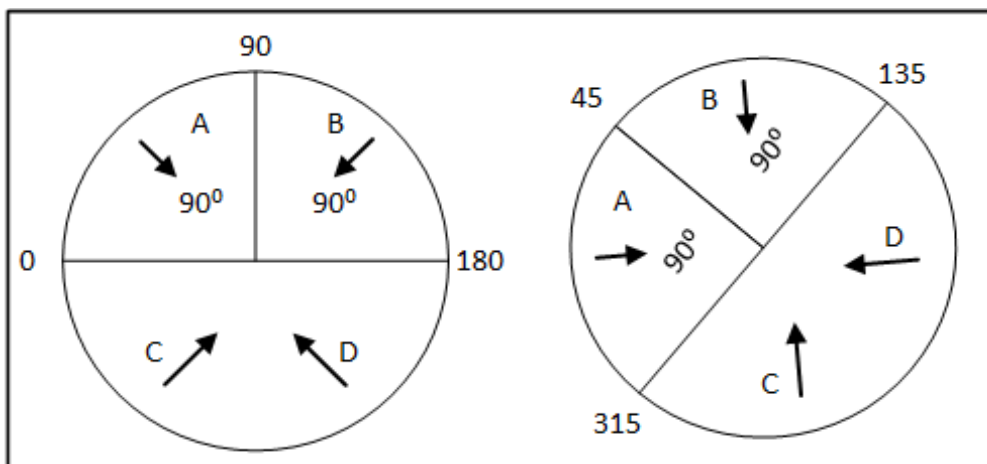

Figure 7: Wind Direction Sensor Definition (7.18)
The number entered here defines the area on both sides of the sensor! Figure 7 illustrates a chicken house with four wind sensors. Sensor 1's Wind Direction parameter is defined as 45° or 90° **total**. Winds that come within this area (A) are used for Natural Programming. The controller disregards winds outside of this area (B & C).